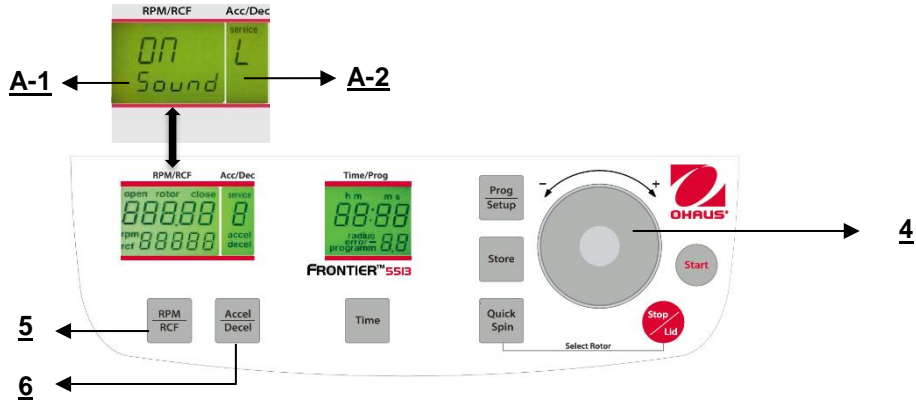

Figure. 30
Proceed as described under point 4.1.2 to enter this program mode and then press the key "Accel/Decel" (6). In the display "Acc/Dec" (A-2) the word "Service" flashes. Now select the letter "L" with the adjusting dial (4). As a result, the words "On Sound" appears in the display "RPM/RCF" (A-1). If you press the key "RPM/RCF" (A-1) now, the word "On" flashes and you can switch off the sound with the adjusting dial (4) (See figure 30).